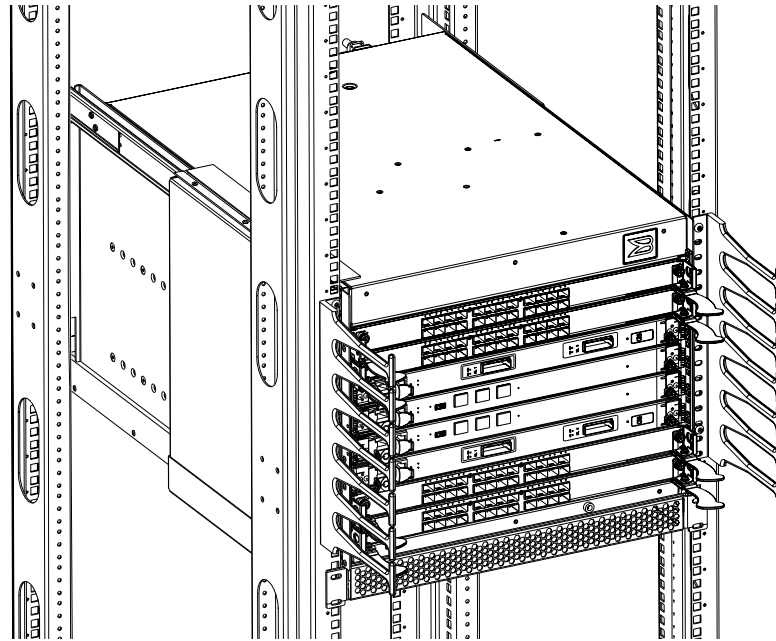

FIGURE 20 RRP: Vertical cable management finger assemblies
2. Unscrew and save the three (3) screws holding the finger assembly to the rack upright (Figure 20). Support the assembly to prevent it from falling.